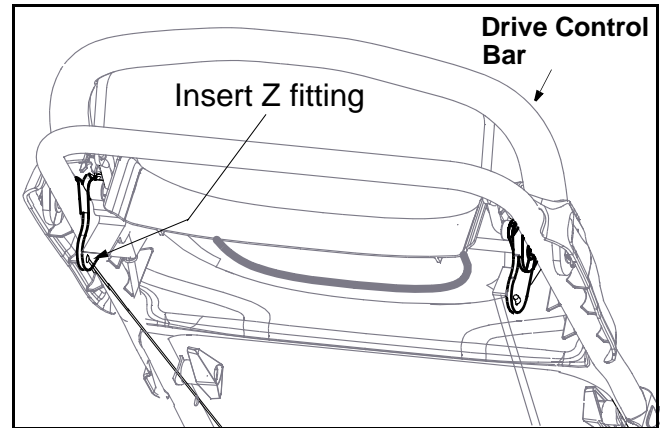

Figure 3
6. While holding the drive control bar, hook the "Z" end of the drive cable into the bottom hole of the drive control bar from inside to outside. See Figure 3.